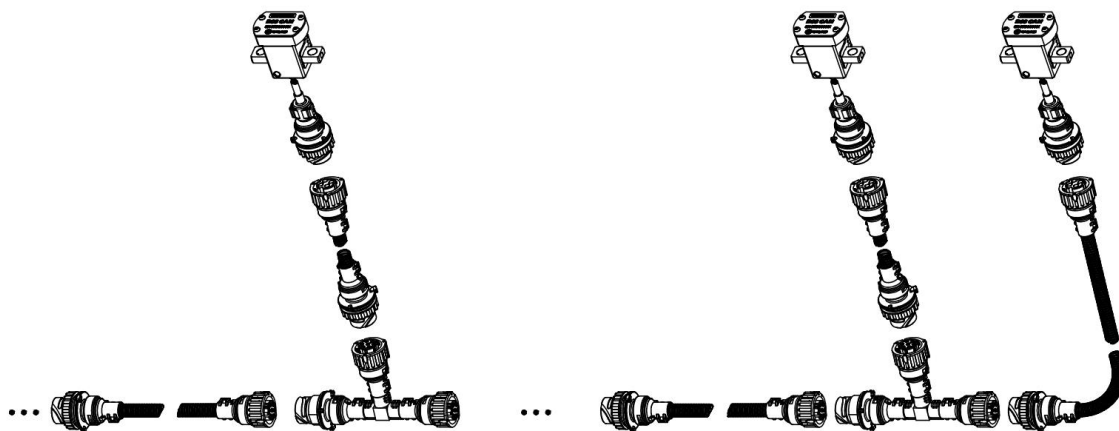

fig. 4.2. Connecting sensors via T-Cables
- Use special T-Cables to create sensor network (fig. 4.2).